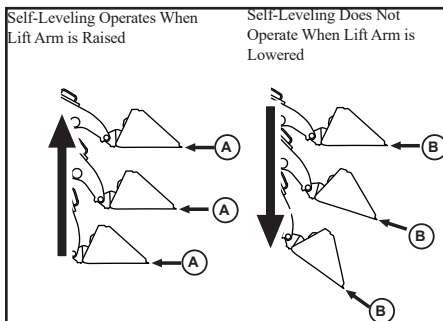

Fig. 33 - Self-Leveling Operation
Self-leveling automatically keeps the tilt angle of the attachment constant, relative to the ground plane, (Fig. 33) when the lift arm is raised (A). This feature is especially useful when using pallet forks.